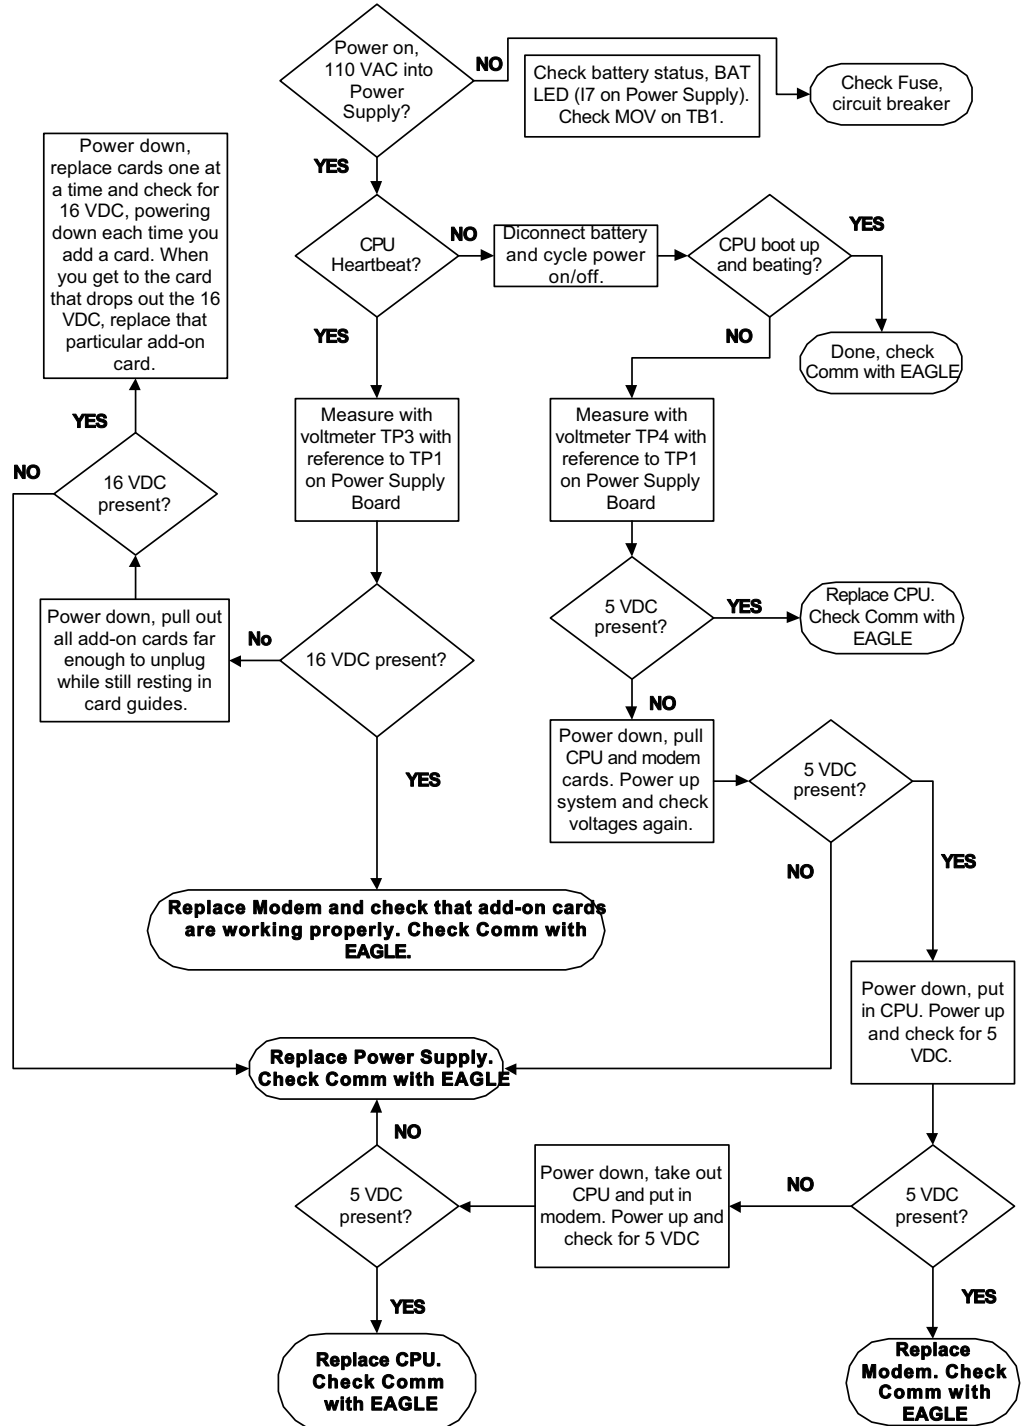

Figure 3-1 FTM 5003 Communication Failure Flow Chart
- The Heartbeat LED (I5) on the 5110 CPU card will blink to indicate that the CPU is running correctly. If the LED is off or steady, then the CPU is not working for some reason (see *Figure 3-1*).
A flowchart is shown in *Figure 3-1* that describes the steps to take if a communication failure is suspected with the unit. This would include: not being able to dial into the unit, the unit does not call out, not getting readings